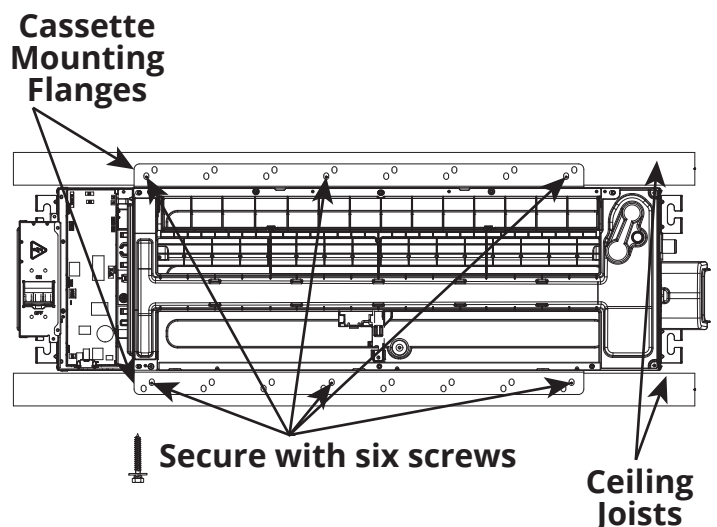

Fig. 5.13
- Then, mount the unit to the ceiling joists by installing six ST8.0*50 screws (3 per side) through the holes of the unit mounting flanges and into the ceiling joists. Ensure the screws are fully threaded into the joist and will not loosen over time (see Fig 5.13). **NOTE: Eight ST8.0*50 screws provided, but only six are needed to complete this step. The remaining two screws are to be kept as spares.**